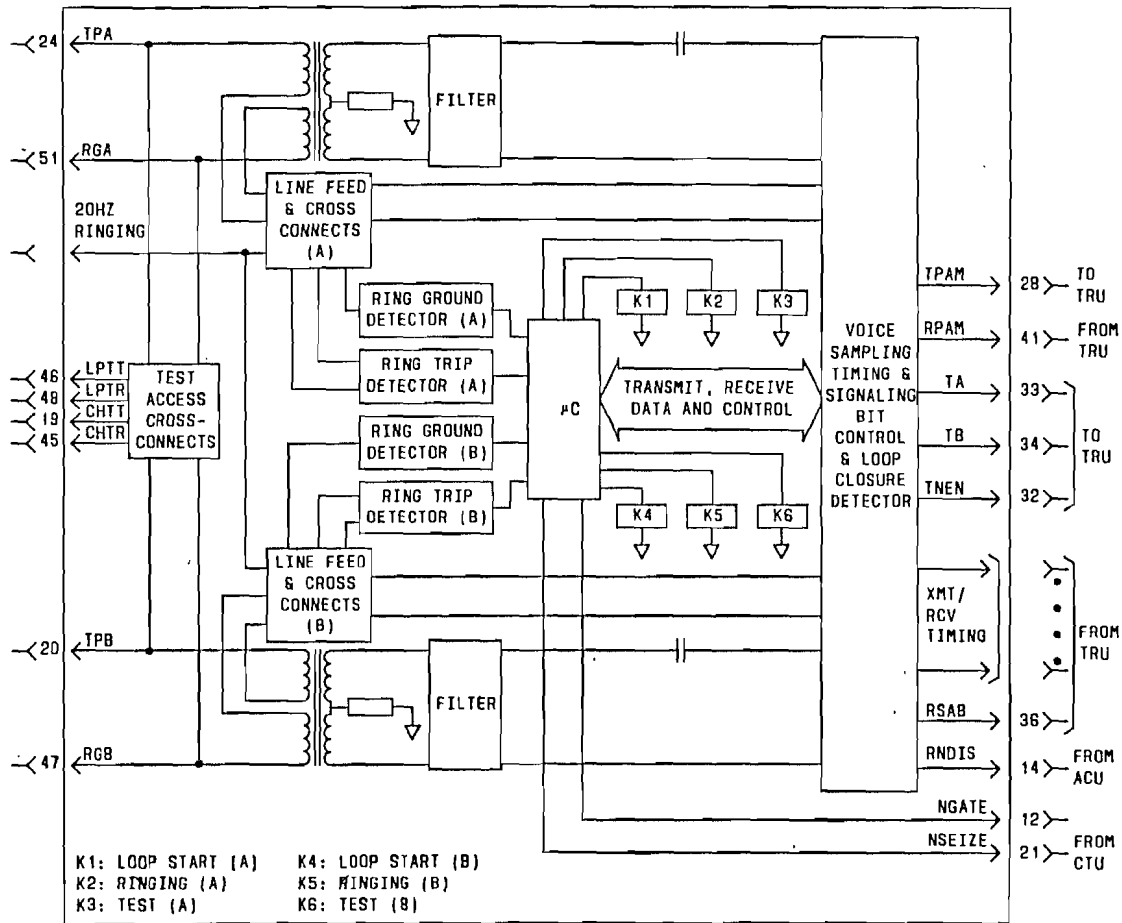

Fig. 1—WP37 Functional Diagram
vides two channels per plug-in and is testable with the pair gain test controller (PGTC). The WP37 is located in the remote terminal (RT) bank. When the SPOTS WP36 CU is in place at the central office terminal (COT) bank, the WP37 will provide open switching interval protection and forward disconnect capabilities. Figure 1 is a functional block diagram of the unit, and Fig. 2 shows the board and faceplate features.